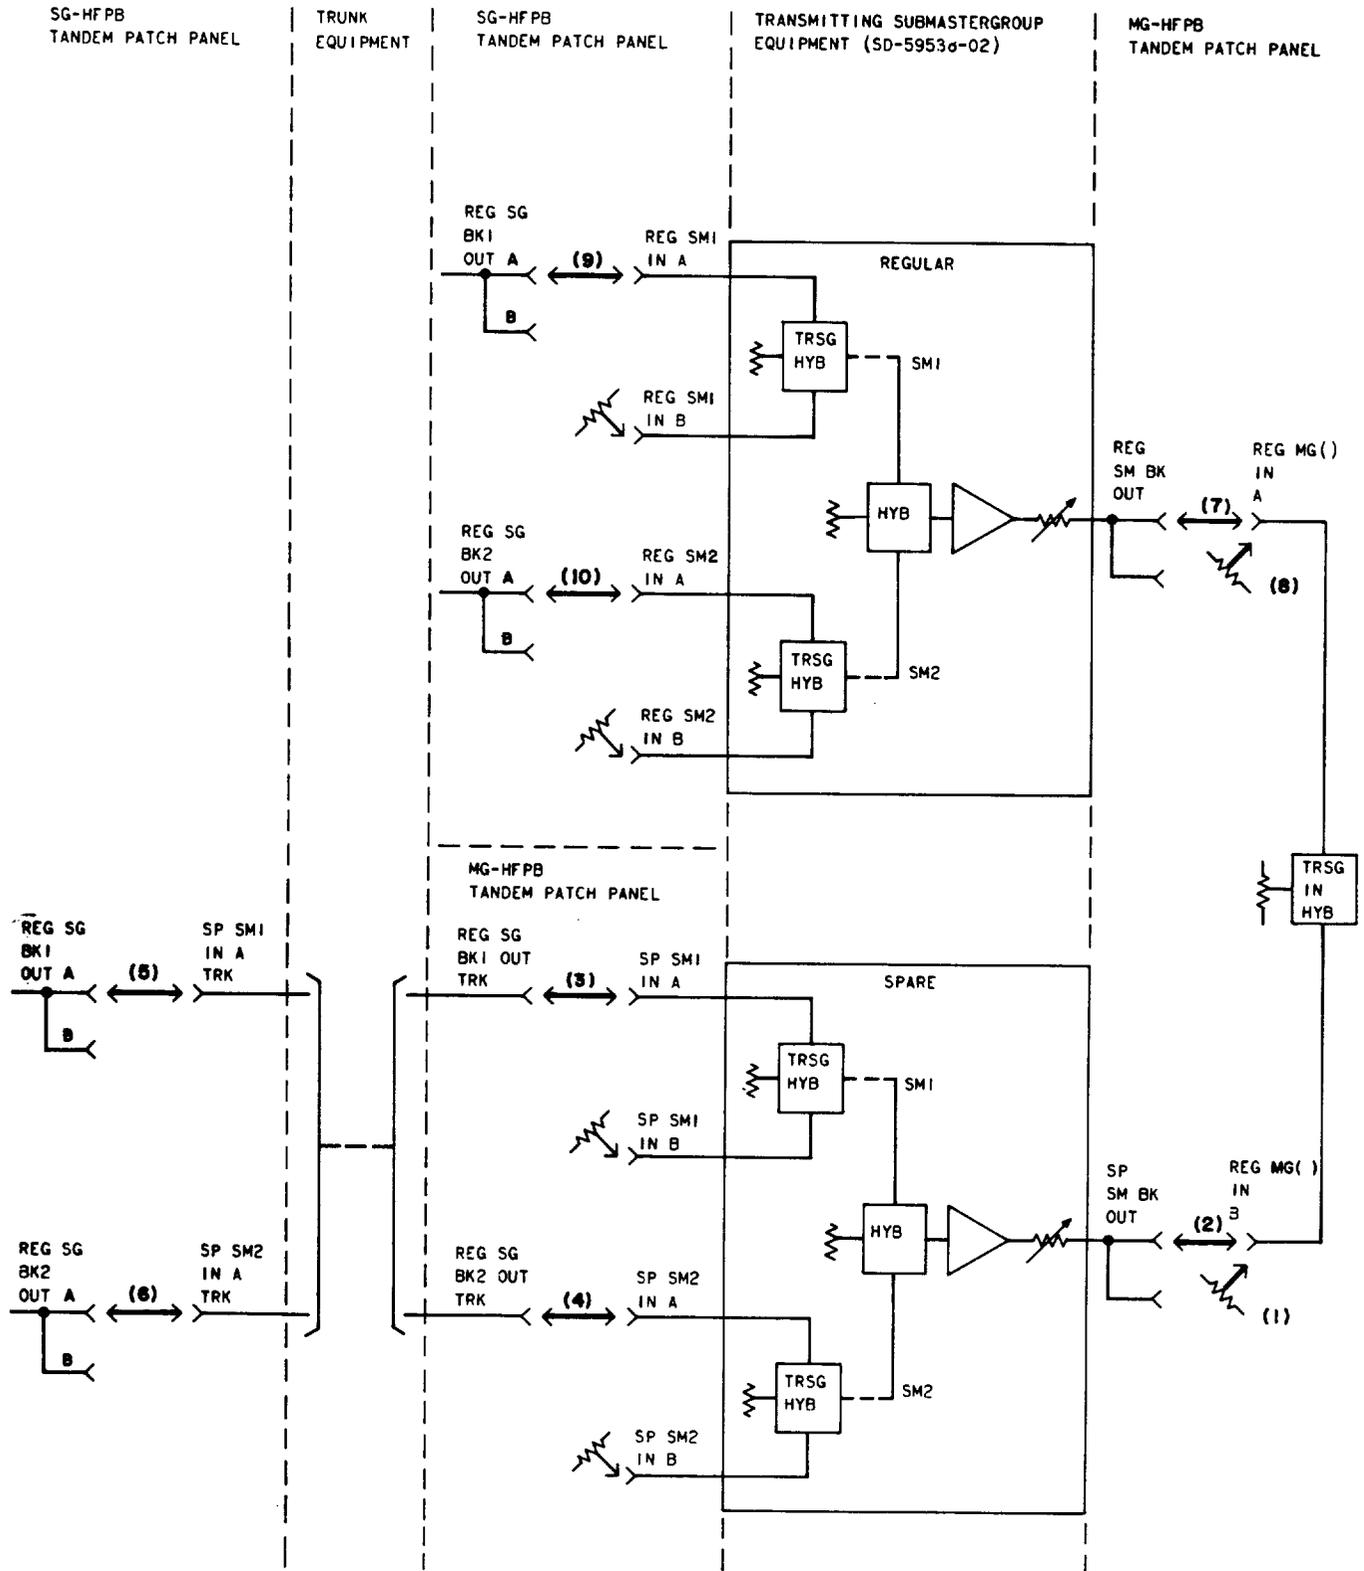

Fig. 3—Removing Regular Equipment From Service—Patching Procedure
<p>(a) Remove the 358B plug (75-ohm termination) from the REG MG( ) IN B jack [patch (1), Fig. 3].</p>
<p>Note: Jack designations may vary between offices. The new designations (Table A) are used in this procedure.</p> <p>(b) Insert a 372A plug (through connection) into the REG MG( ) IN B and SP SM BK OUT jacks [patch (2), Fig. 3].</p> <p>(c) Insert a 372A plug into the SP SM1 IN A and REG SG BK1 OUT TRK jacks [patch (3), Fig. 3].</p> <p>(d) Insert a 372A plug into the SP SM2 IN A and REG SG BK2 OUT TRK jacks [patch (4), Fig. 3].</p>
8	<p>At the transmitting tandem patch panel (SG-HFPB),</p> <p>(a) Insert a 372A plug into the SP SM1 IN A TRK and multiple REG SG BK1 OUT jacks [patch (5), Fig. 3].</p> <p>(b) Insert a 372A plug into the SP SM2 IN A TRK and multiple REG SG BK2 OUT jacks [patch (6), Fig. 3].</p>
11	<p>At the transmitting tandem patch panel (MG-HFPB),</p> <p>(a) Remove the 372A plug from the REG SM BK OUT and REG MG( ) IN A jacks [patch (7), Fig. 3].</p> <p>(b) Insert a 358B plug into the REG MG( ) IN A jack [patch (8), Fig. 3].</p>
14	<p>At the transmitting tandem patch panel (SG-HFPB),</p> <p>(a) Remove the 372A plug from the REG SM1 IN A and multiple REG SG BK1 OUT jacks [patch (9), Fig. 3].</p> <p>(b) Remove the 372A plug from the REG SM2 IN A and multiple REG SG BK2 OUT jacks [patch (10), Fig. 3].</p>